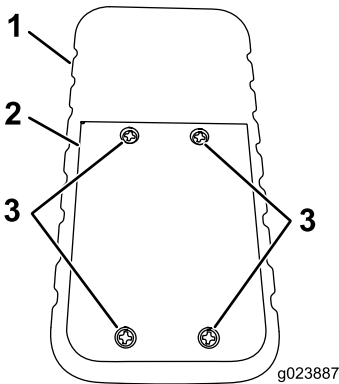

Figure 57
1. Loosen the 4 screws securing the battery cover (Figure 57).